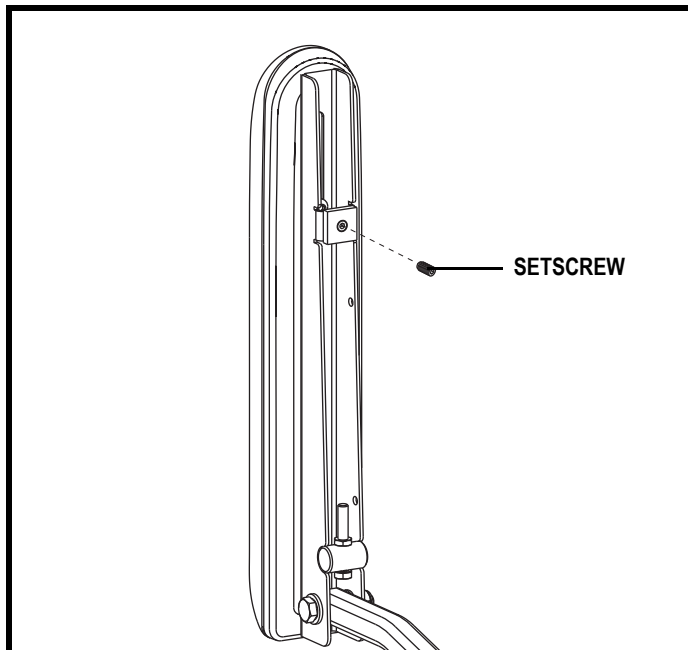

Figure 10. Underside of Armrest
2. Loosen the setscrew on the controller bracket. See **figure 10**.